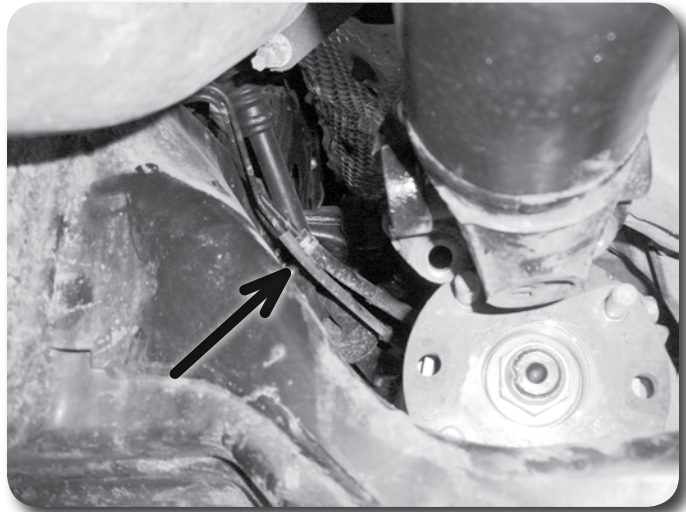

Figure 19
24. Locate the differential vacuum and breather lines on the upper driver's side of the differential **Figure 19**. Disconnect the lines from the hard lines at the frame.